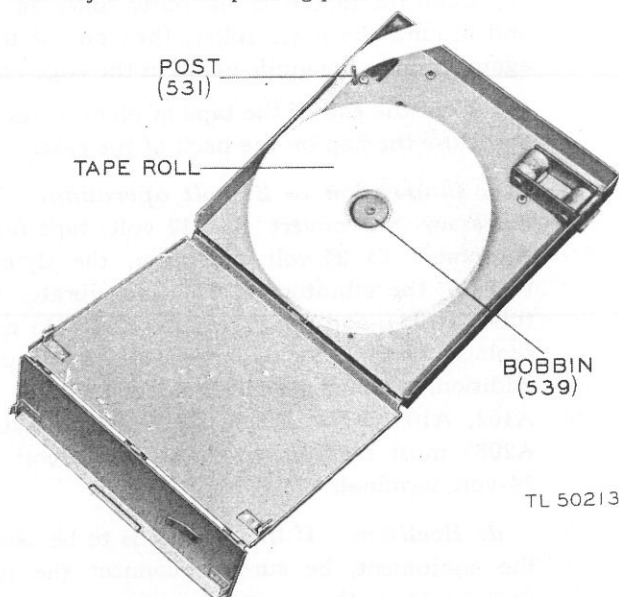

Figure 13—Installation of writing-stand tape (view 1)
(2) Place a roll of tape over the bobbin (539) in the center of the top of the case, so that the tape unwinds in a clockwise (to the right) direction when pulled (fig. 13).
(3) Thread the tape *between* the guide post and the triangular guide plate (531).
(4) Close the part of the case covering the tape roll, leaving the flap over the wooden rollers open.
(5) Lift the writing stand, and loop the tape over the triangular guide plate and out through the slot in the top of the case at the outer edge.
(6) Thread the tape through the guides across the top surface, and down into the case again be-